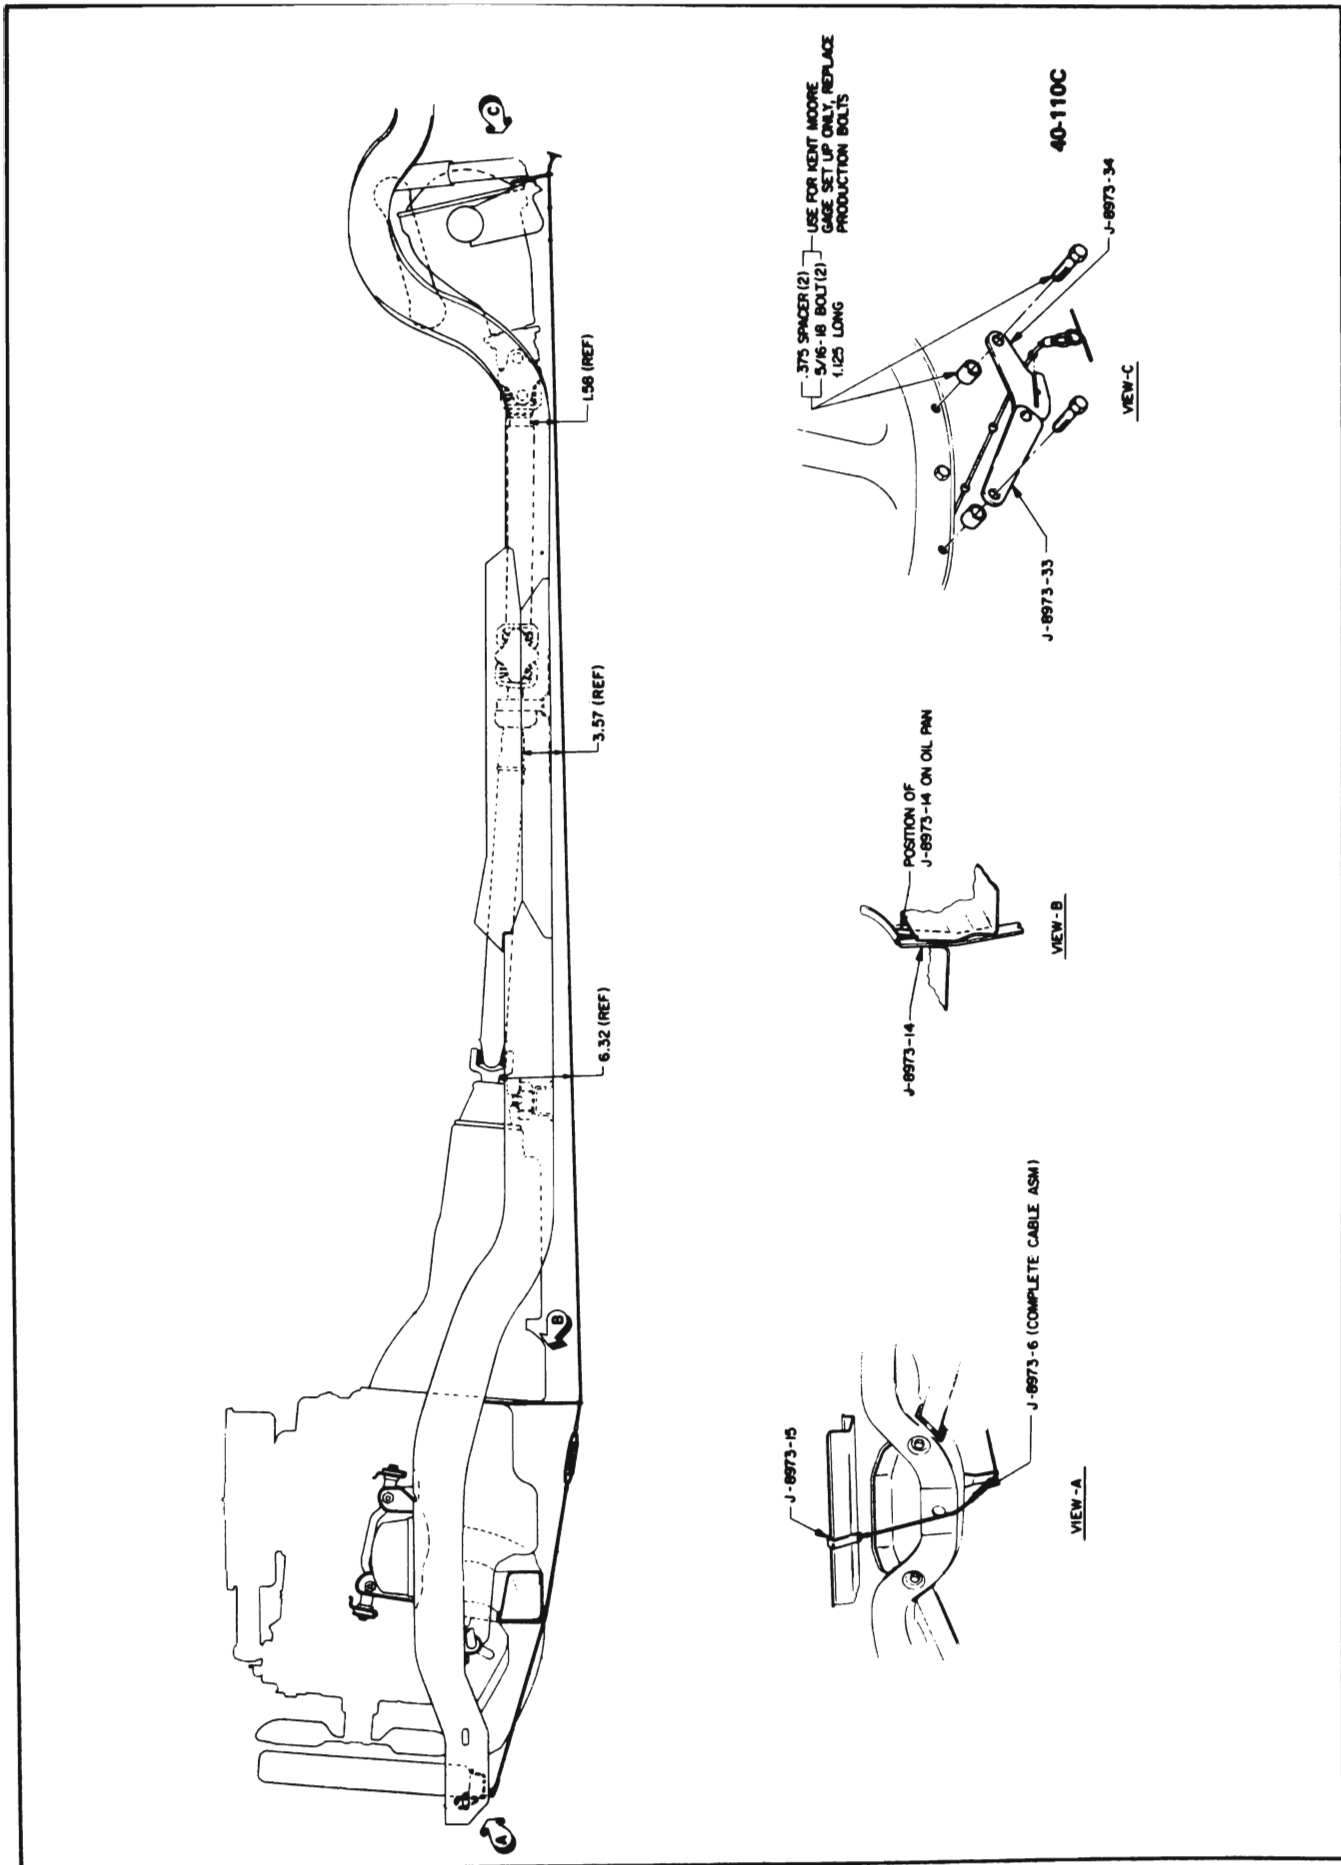

Figure 40-80 - Checking Universal Joint Angles
4. Position Engine Height Plate J-8973-14 vertically with wide end centered against rear flange of engine pan. Pull cable down and place in lower notch of plate. See Figure 40-80.
5. Measure distance between top of cable and bottom of rear propeller shaft as illustrated in Figure 40-80. Measurement should be 1.58 in.
6. Measure distance between top of cable and bottom of front propeller shaft as illustrated in Figure 40-80. Measurement should be 3.57 in.
7. Measure distance between top of cable and bottom of front U-Joint slip yoke as illustrated in Figure 40-80. Measurement should be 6.32 in.